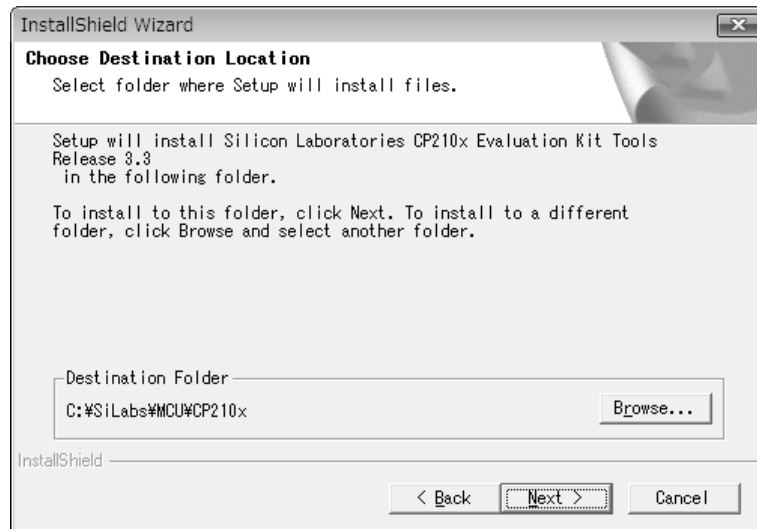

Fig. 42 Choose Destination Location
- (4) The "Choose Destination Location" screen shown in Fig.42 appears. **C:\%SiLabs%\MCU\CP210x** is selected by default.